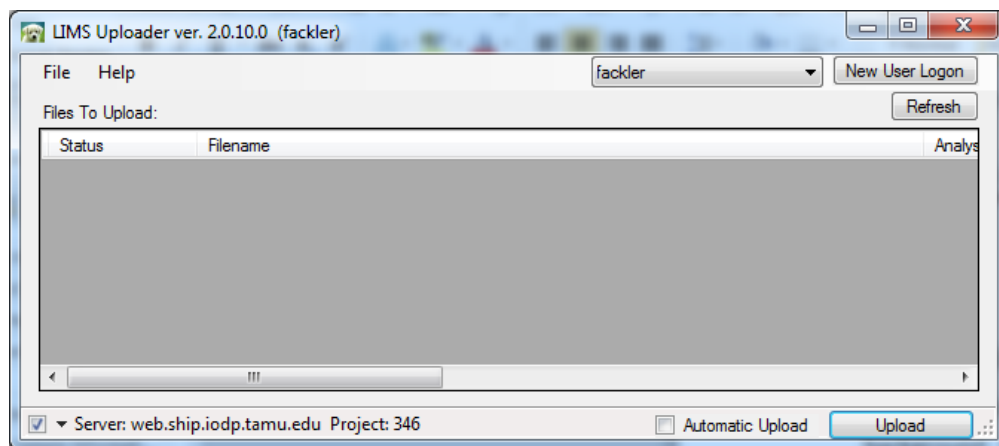

Figure 21. LIMS Uploader window.
2. The **LIMS Uploader** window will appear (*Figure 21*).